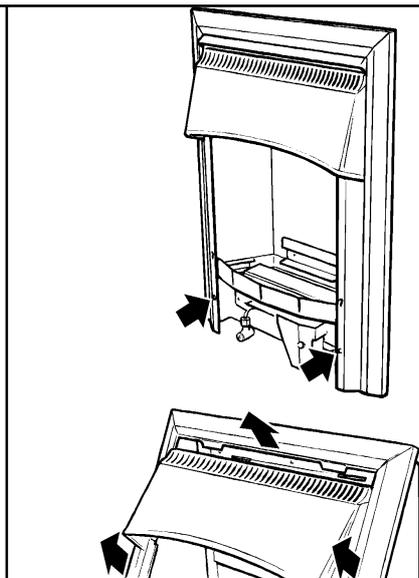

Fig. 39 Outer surround removal
13.3.4 Remove the two screws securing the bottom of the front surround to the sides of the convection box (See fig. 39).
13.3.5 *Make sure that the control linking bar has been detached (see 13.3.3).* Raise the front surround to allow the retaining lugs at the top to clear the slots in the convection box hood (see figure 39) . Carefully remove the surround ensuring that the control linking bar is clear. Slide the control button upwards as far as it will go to prevent the bottom linkage bar from protruding below the surround and possibly being damaged. Place carefully aside.